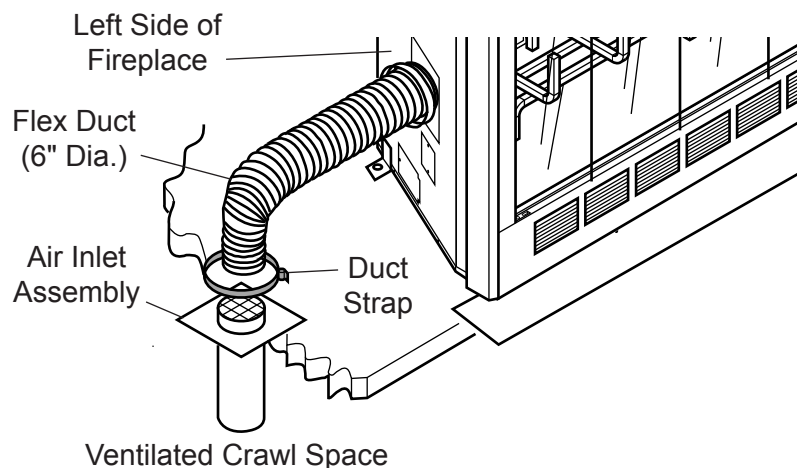

Figure 22 - Securing Flex Duct to Starting Collar and Inlet Air Assembly with Duct Straps
3. Cut a 6½" diameter hole in floor leading into a ventilated crawl space and install the air inlet assembly. *See Figure 22.*
4. Use duct straps to secure flex duct to starting collar and inlet air assembly. *See Figure 22.*